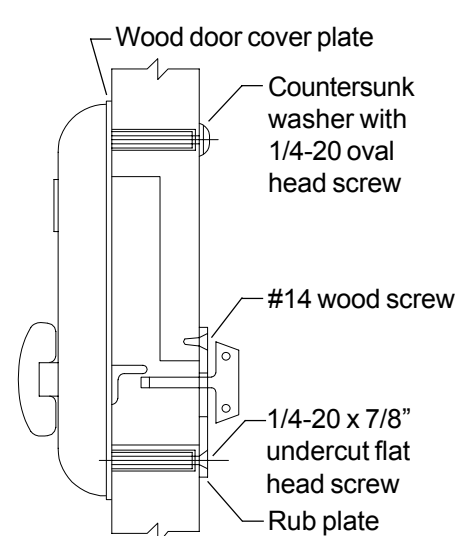

Figure 4. Control and rub plate application.
9. Apply control, wood door cover plate, and rub plate to door and secure with screws (Figure 4).